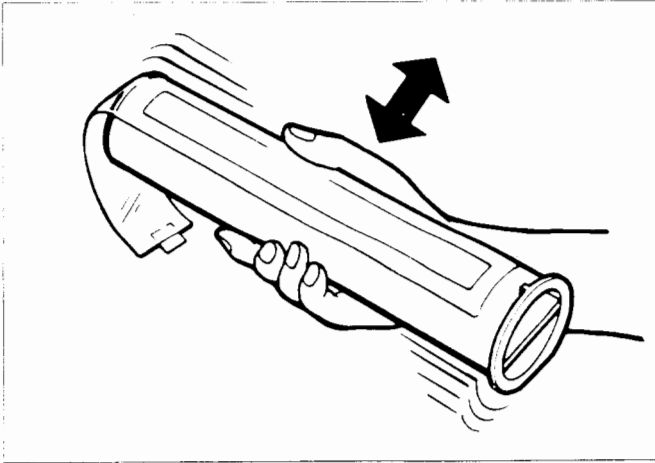

Figure 3.4 Shaking the toner cartridge
3. Shake the new toner cartridge from side to side so the toner is laid evenly along the length of the cartridge (figure 3.4).